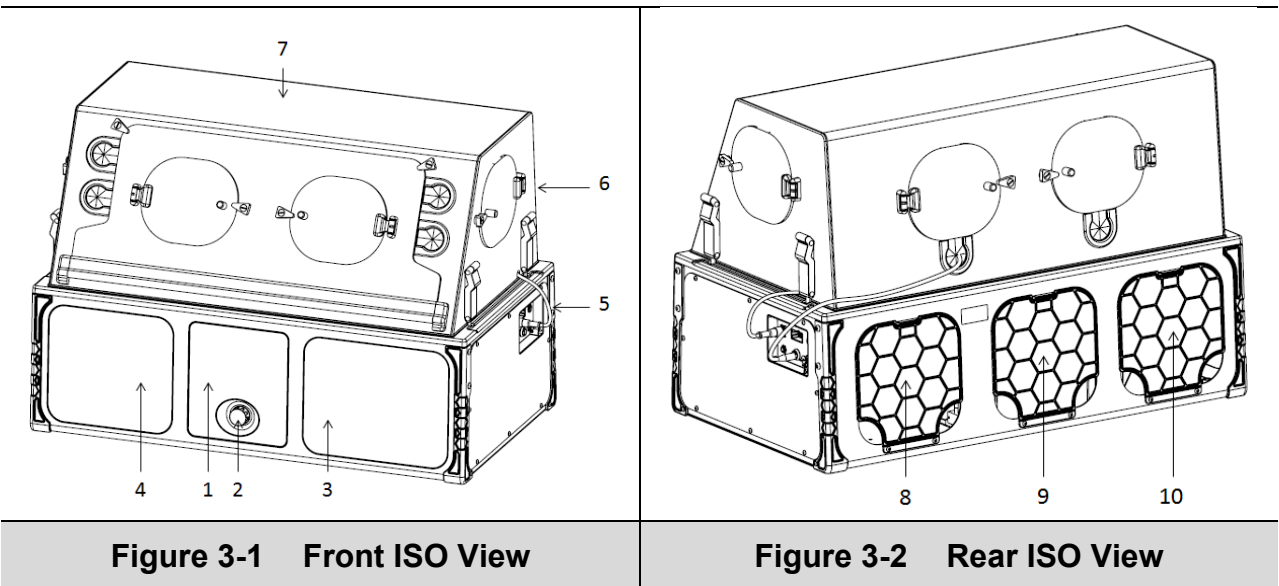

Figure 3-1 Front ISO View **Figure 3-2 Rear ISO View**
2. With the Transport Incubator connected to AC power, press the wheel (**Figure 3-1**, item 2) to turn the Transport Incubator on. The Transport Incubator will perform a Power On Self-Test and test the audible alarm. Ensure the Power On Self-Test progress bar is displayed, and that the audible alarm can be heard. Verify the AC power icon and battery power icon is displayed in the upper left hand corner after completion of the test.